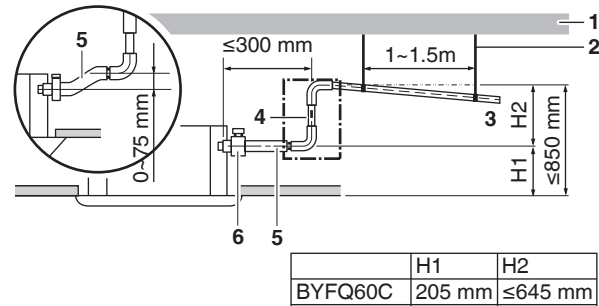

Fig. 19
- How to perform piping (See Fig. 19)